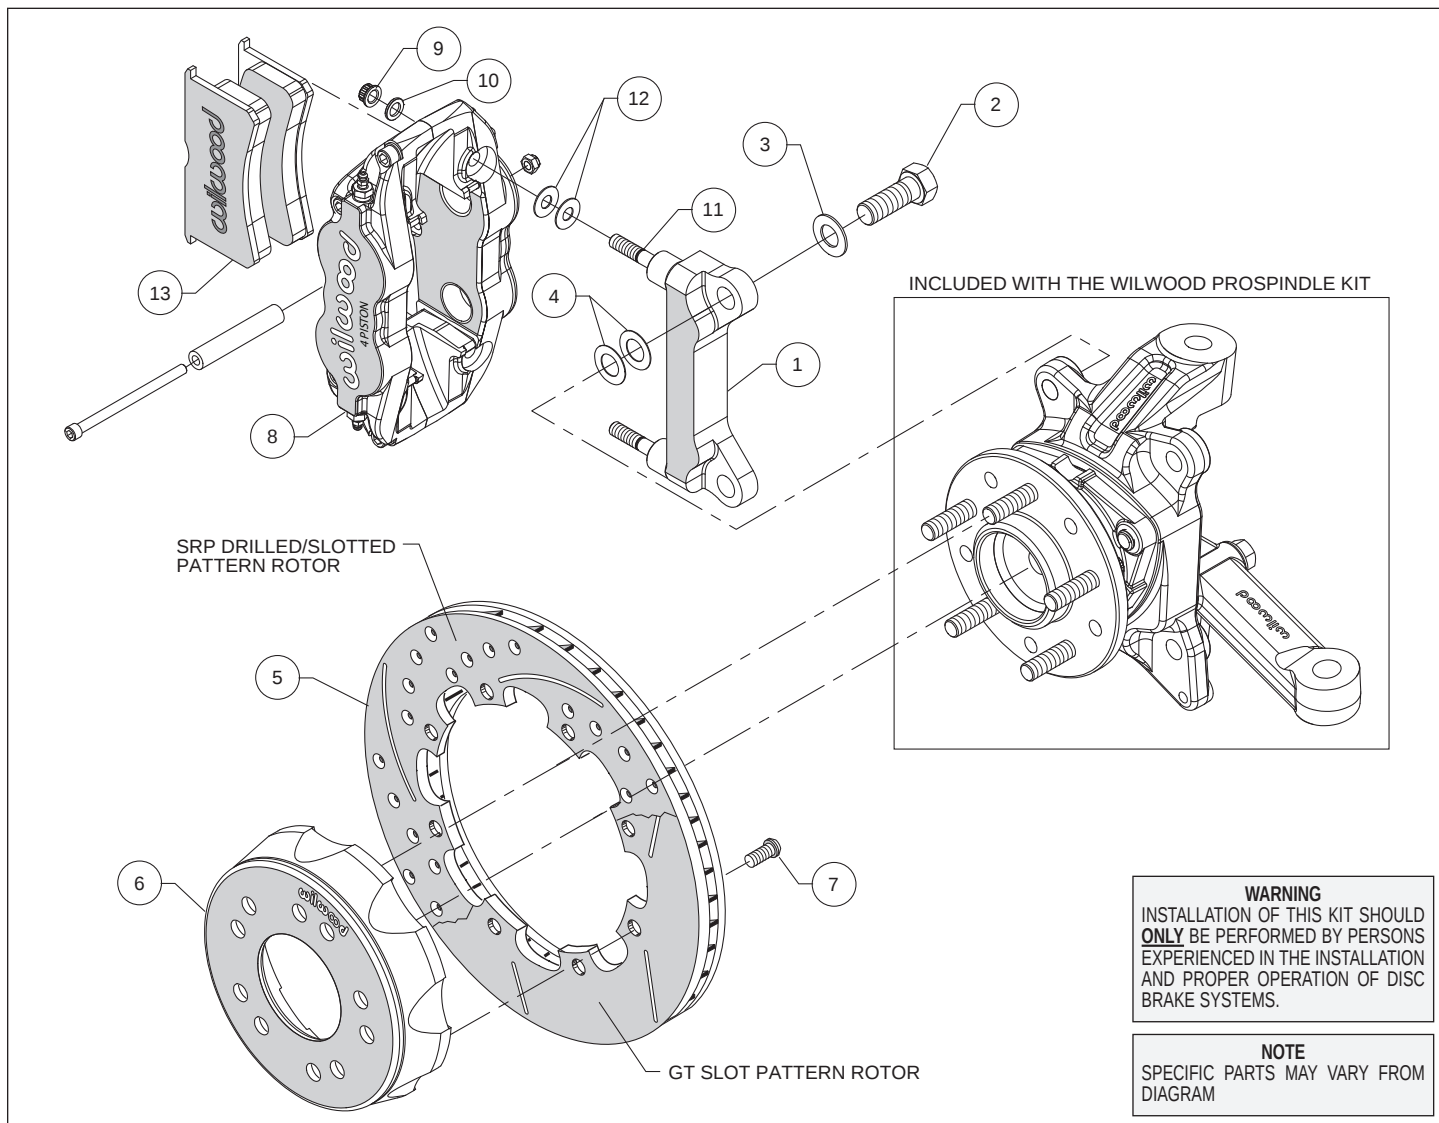

Figure 1. Typical Installation Configuration
Assembly Instructions (numbers in parenthesis refer to the parts list and Figure 1 on the preceding pages):
• The caliper mount bracket (1) should initially be installed with clean, dry threads on the mounting bolts. Orient the bracket as shown in Figure 1 and Photo 1 and install using mount bolts (2) and washers (3). Initially place two .024" thick shims (4) on each bolt between the bracket and spindle, Figure 1. Temporarily tighten the mounting bolts. **NOTE:** The bracket must fit squarely against the mounting points on the spindle. Inspect for interference from casting irregularities, machining ridges, burrs, etc. Later, after the caliper alignment has been checked, the mount bolts will be secured using red Loctite® 271.
- Orient the rotor (5) and the hat (6) as shown in Figure 1 and Photo 2. Attach rotor to hat using bolts (7). Using an alternating sequence, apply red *Loctite*® 271 to the threads, and torque to 25 ft-lbs.
- Lubricate the caliper mounting studs (11) with lightweight oil. Initially place two .035" thick shims (12) on each stud as shown in Figure 1 and Photo 5. Mount the caliper (8) onto the bracket (1) using lock nuts (9) and washers (10), Figure 1. Temporarily tighten the lock nuts and view the rotor through the top opening of the caliper. The rotor should be centered in the caliper, Photo 6. If not, adjust by adding or subtracting shims (4) between the bracket and the spindle. Always use the same amount of shims on each of the two mounting bolts. Once the caliper alignment is correct, remove the bracket mounting bolts one at a time, apply red *Loctite*® 271 to the threads, and torque to 140 ft-lb.